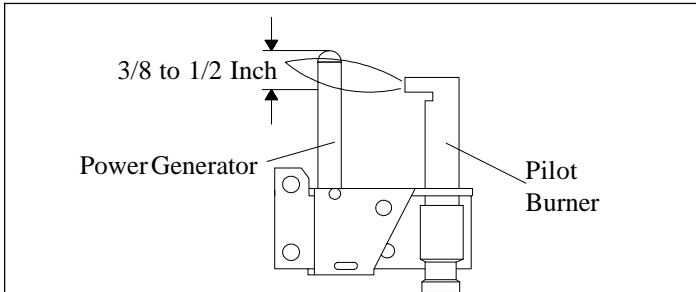

FIGURE 15. PILOT BURNER ADJUSTMENT
2. Adjust pilot key to provide properly sized flame. **See Figure 15 for properly sized flame.**